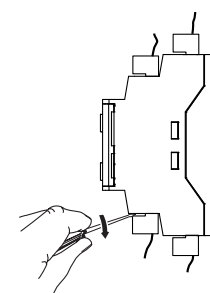

Fig. 10 Disconnecting terminal blocks
1. Take off the terminal blocks without disconnecting the wires (Fig. 10)